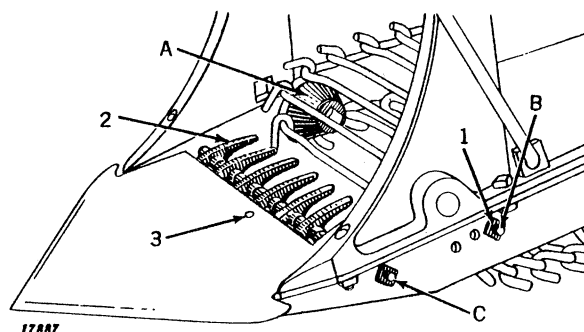

Figure 26
1. (Figure 26) Move front elevator rollers "A" to the rear hole "B." (See "Front Elevator Adjustment," page 4, Figure 3.)
2. (Figure 26) Assemble rod through hole "C" and through all fingers of the Stone Guard.
3. (Figure 26) Fasten hinge to center bolt in shovel.